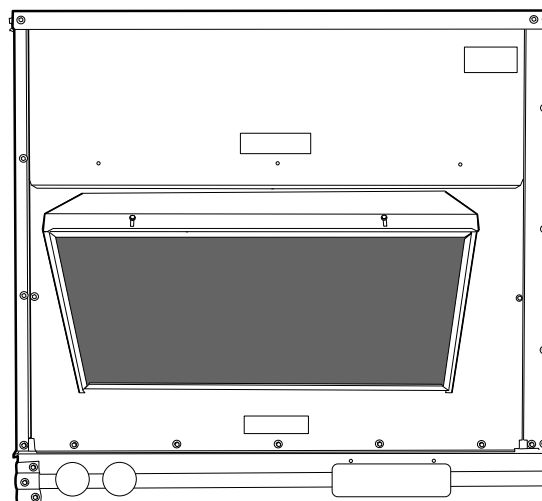

Fig. 30 — Filter Installed on Outdoor-Air Hood
9. Slide outdoor-air inlet screen into screen track on hood side plate. While holding screen in place, fasten screen retainer to hood using screws provided. See Fig. 30.